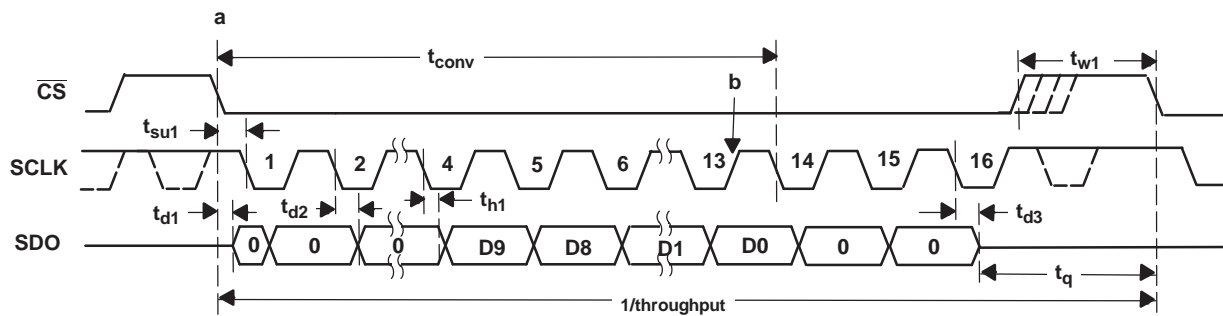

Figure 1. Interface Timing Diagram
**TIMING REQUIREMENTS (see Figure 1)**
The cycle begins with the falling edge of  $\overline{\text{CS}}$ . This point is indicated as **a** in Figure 1. With the falling edge of  $\overline{\text{CS}}$ , the input signal is sampled and the conversion process is initiated. The device outputs data while the conversion is in progress. The data word contains 4 leading zeros, followed by 10-bit data in MSB first format and padded by 2 lagging zeros.
The falling edge of  $\overline{\text{CS}}$  clocks out the first zero, and a zero is clocked out on every falling edge of the clock until the third edge. Data is in MSB first format with the MSB being clocked out on the 4th falling edge. Data is padded with two lagging zeros as shown in Figure 1. On the 16th falling edge of SCLK, SDO goes to the 3-state condition. The conversion ends on the 14th falling edge of SCLK. The device enters the acquisition phase on the first rising edge of SCLK after the 13th falling edge. This point is indicated by **b** in Figure 1.